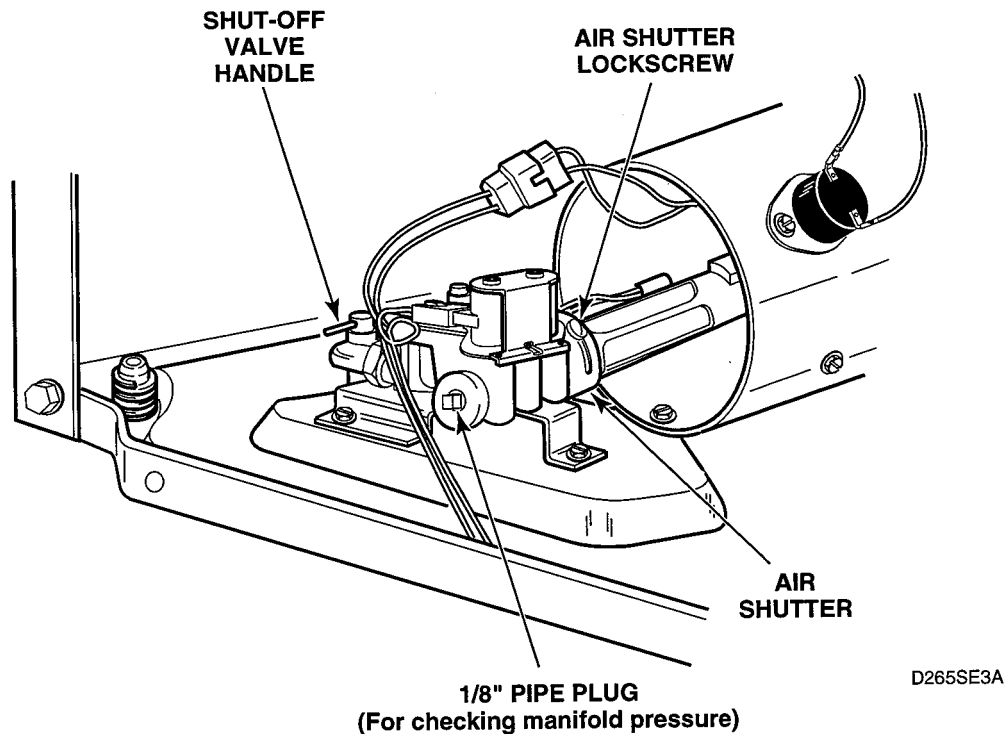

Figure 6-2
- After proper flame is obtained, tighten air shutter lockscrew securely. See figure 6-2.